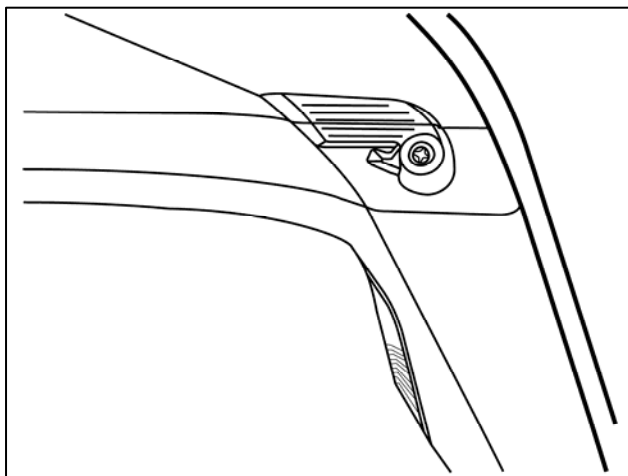

Fig. 1-1
- (a) Open the rear cargo door and locate the panel shown on the passenger's side of the vehicle. (Fig. 1-1)